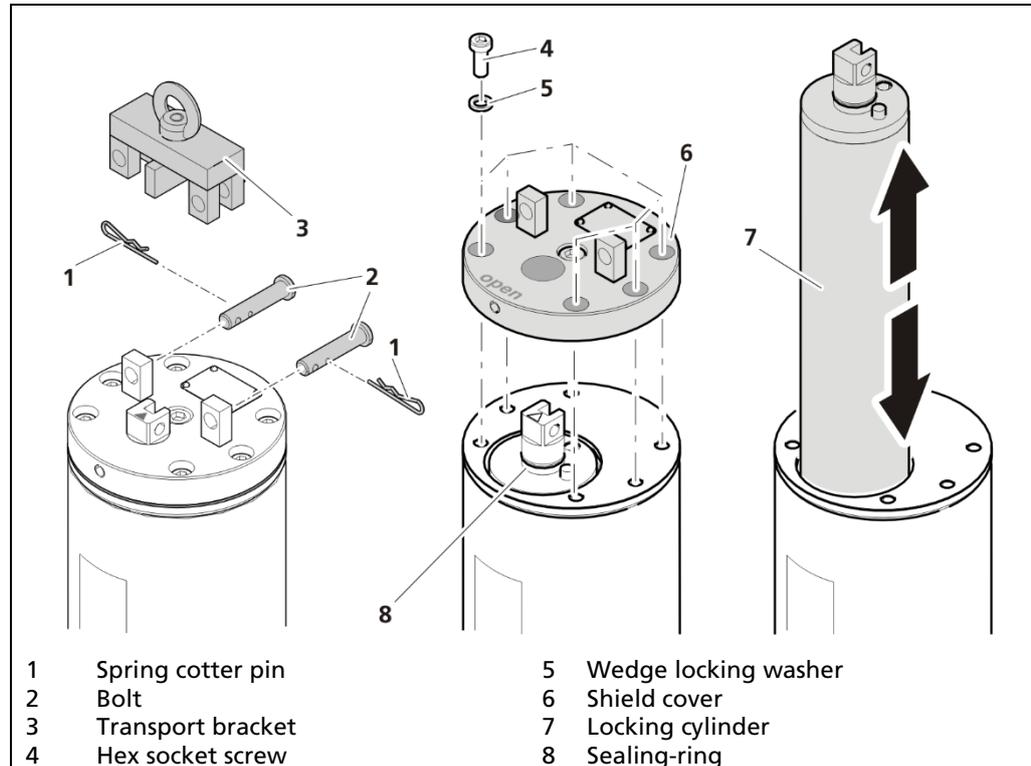

Fig. 14 Dismounting and mounting the locking cylinder of a operation shield
1. Remove the spring cotter pins (Fig. 14, pos.1) and the bolts (Fig. 14, pos.2)
2. Remove and transport bracket (Fig. 14, pos.3).
3. Untighten the hex socket screws (Fig. 14, pos.4) of the shield cover and remove the shield cover (Fig. 14, pos.6).
4. Pull the locking cylinder (Fig. 14, pos.7) upwards, out of its reception tube.
5. Clean the locking cylinder (Fig. 14, pos.7) and the reception tube thoroughly.
7. Check the sealing-ring (Fig. 14, pos.8) for damages and wear, and follow the instruction in the next chapter 6.4.
8. Remount the shield cover (Fig. 14, pos.6) and the transport bracket (Fig. 14, pos.3).